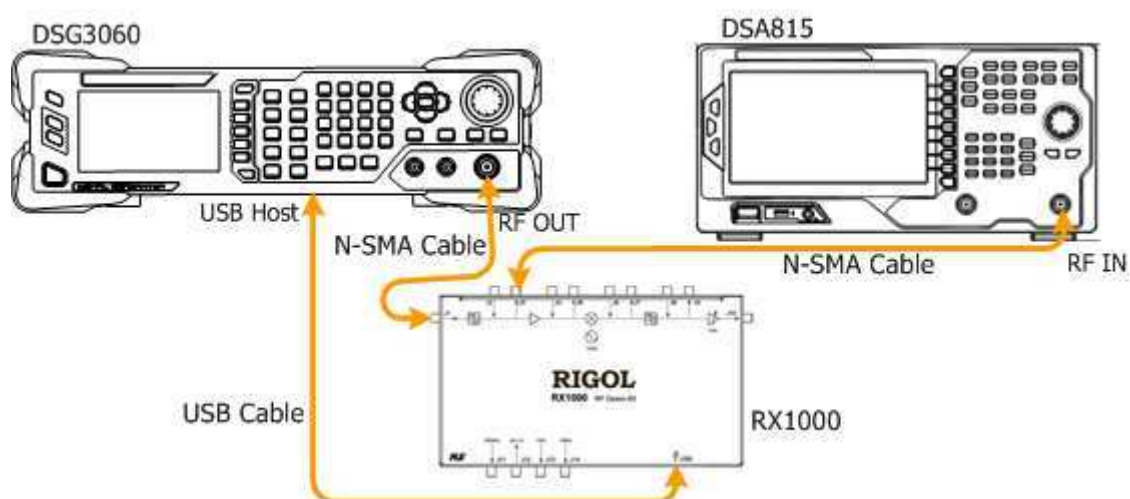

Figure 7 Test the Band-pass Filter Characteristics
1. Connect the DSG3000 series RF signal generator and RX1000 using USB cable; connect the J1 terminal of the RX1000 and the RF output interface of the DSG3000 using an N-SMA cable; connect the J3 terminal of the RX1000 and the RF input interface of the spectrum analyzer using another N-SMA cable as shown in Figure 7.